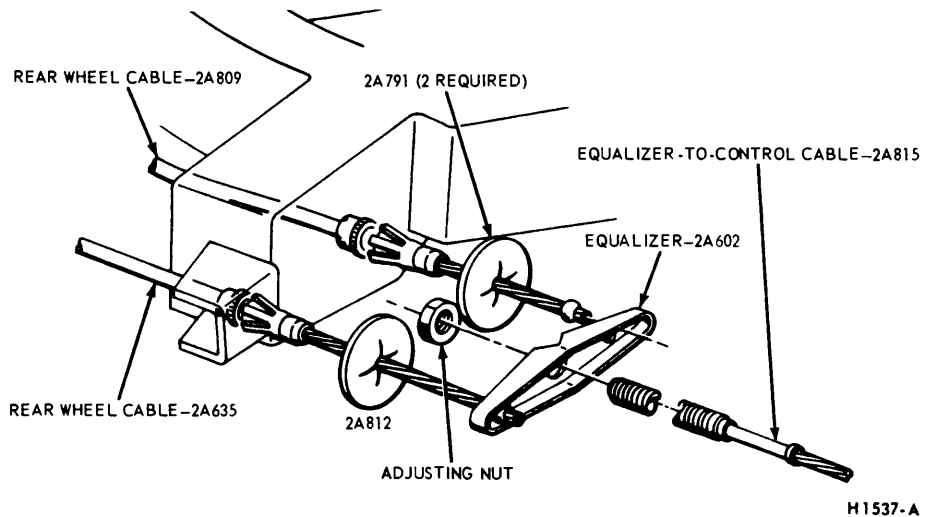

FIG. 5—Parking Brake Adjustment
4. Turn the adjusting nut forward against the equalizer (Fig. 5) until a moderate drag is felt when turning the rear wheels (approximately 100 lbs of force at the outside diameter of the tire is required to turn the rear wheels).